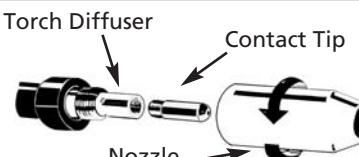

Figure 3 - Torch Nozzle
- b. Wire matches contact tip in end of torch (See Figure 3).
- 7 Unscrew nozzle and contact tip from end of welding torch (See Figure 3). Plug welder into a proper power supply receptacle.
- 9 Carefully slip contact tip over wire, screw tip into torch end and reinstall nozzle (See Figure 3). Cut wire off approximately 1/4 inch from nozzle end.